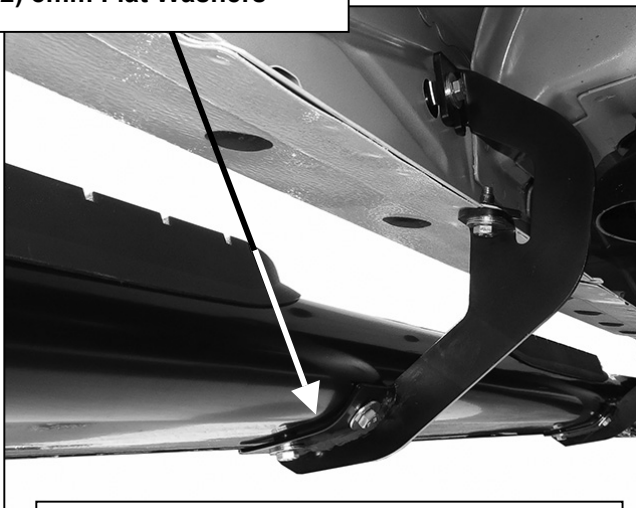

**Fig 16**
10. Line up the side tab on the Lower Bracket with the threaded hole in the side of the Upper Bracket. Attach the Lower Bracket to the Upper Bracket with (1) 8mm x 25mm Hex Bolt, (1) 8mm Lock Washer and (1) 8mm Flat Washer, (**Figure 16**). Leave loose at this time.
11. Repeat **Steps 1—3** for the (2) remaining passenger side Bracket installations. **NOTE:** Cradles on Brackets installed on passenger side will face forward.